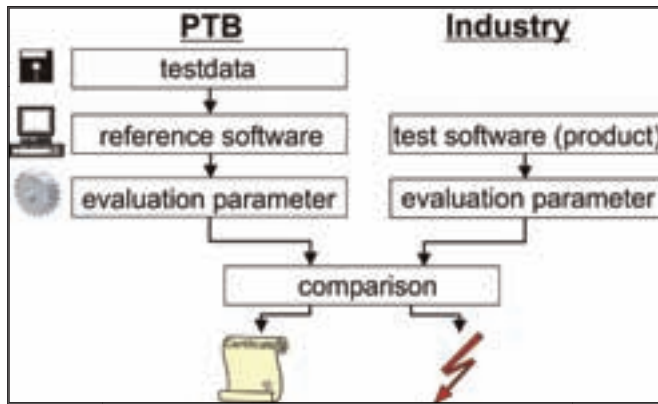

Figure 5—Certification of software algorithms.
8). Besides this application, the software can be used to compare the evaluation from PTB's reference software against the evaluations calculated by the industry. This allows the industry to certify its products. The principle of the software test can be seen in Figure 5.